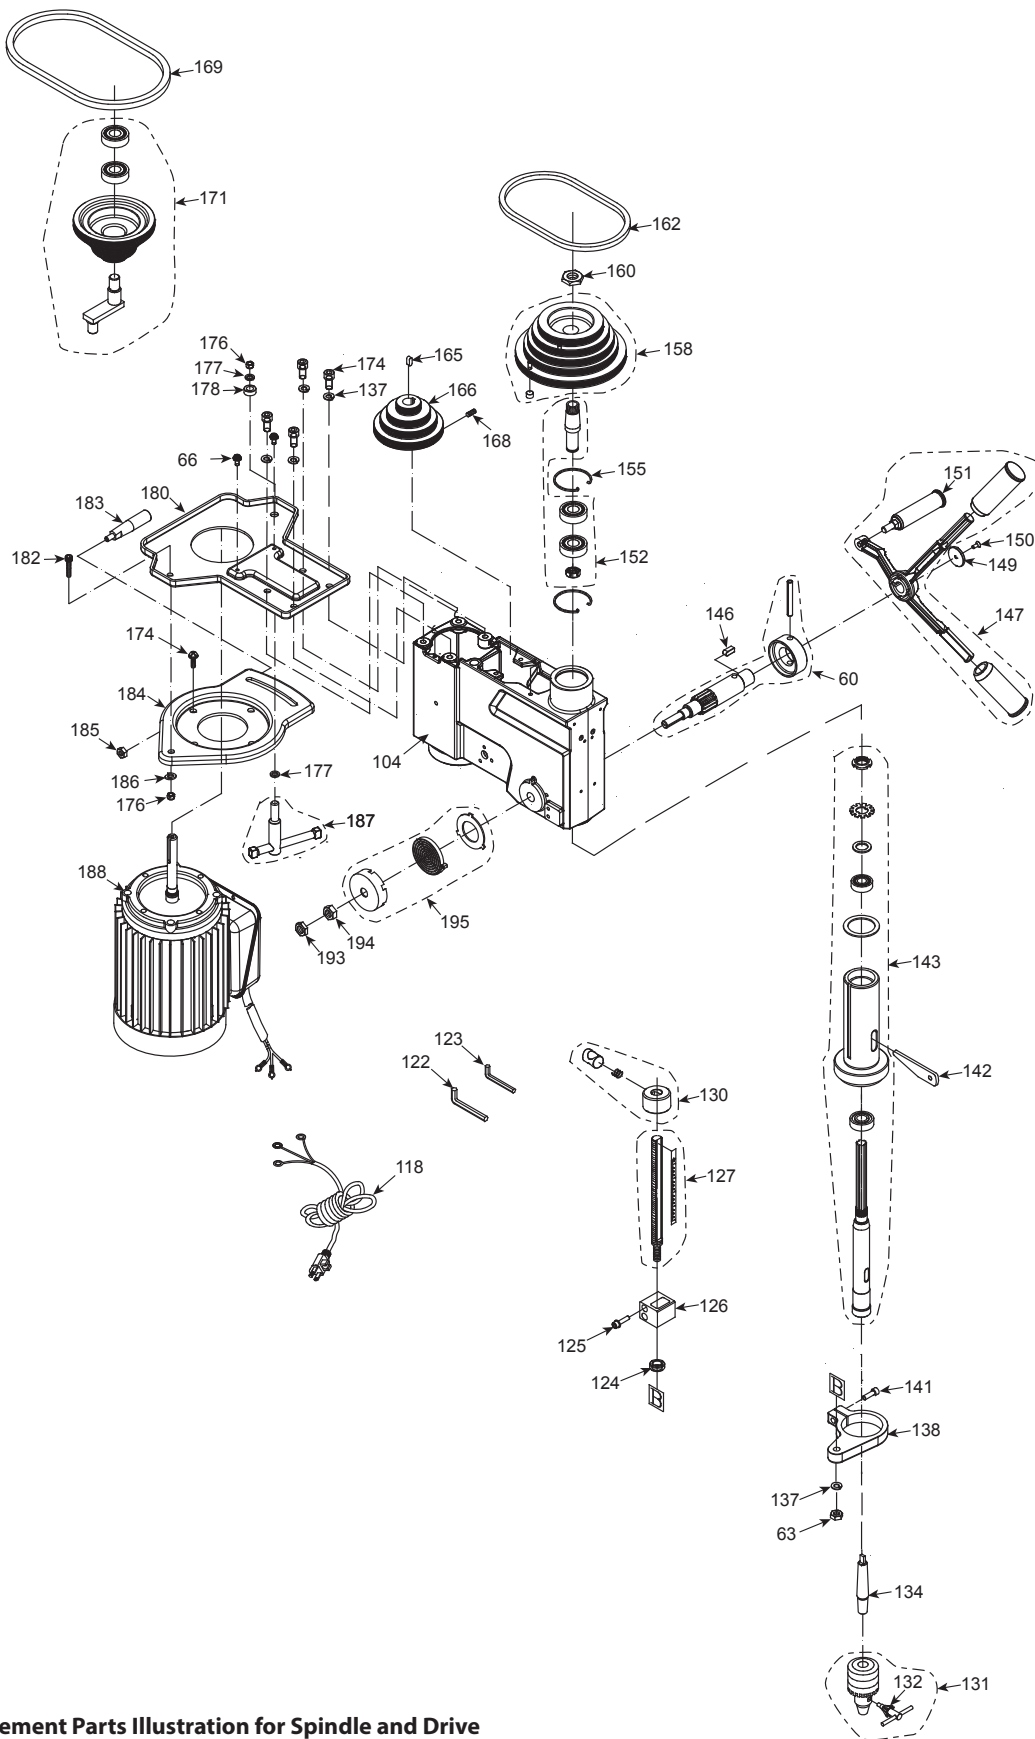

Figure 8 - Replacement Parts Illustration for Spindle and Drive
Refer to Figure 8.
- Lower quill assembly (Figure 8, Ref. No. 143) all the way down.
- Apply lubricant around the inside of the hole in the spindle pulley (Figure 8, Ref. Nos. 158 & 171).
- Apply lubricant to rack (teeth) on quill (Figure 8, Ref. No. 143) while extended below drill press head.